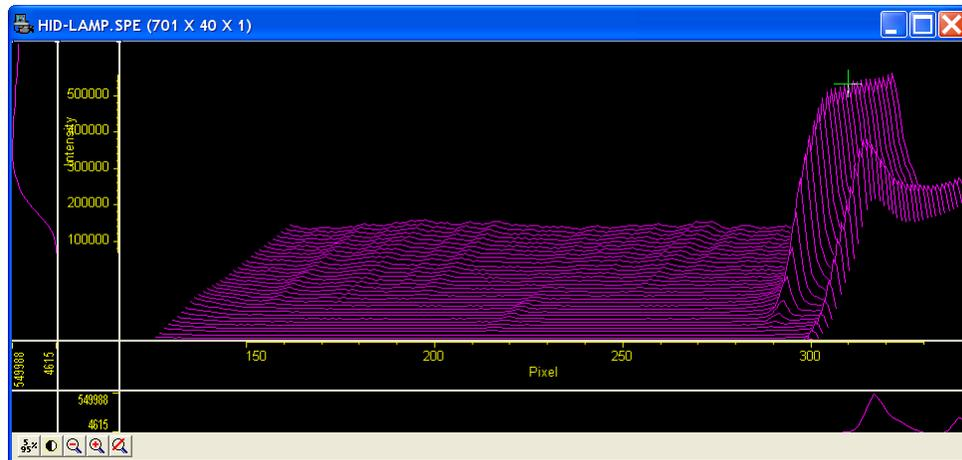

Figure 58. Hid-lamp.spe 3D Graph expanded to show Defined Region
2. Click on  (**Zoom In**). The view will change so that only the selected region is displayed as shown in Figure 58.